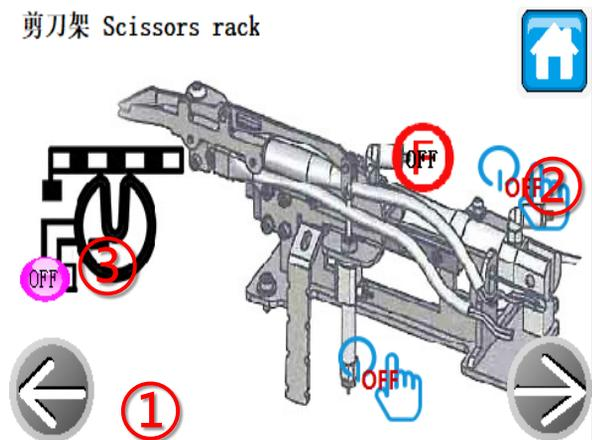

图2
点击检测模式图标进入检测模式，进入图二界面，点击图2中的①为剪刀架气缸，②剪刀合并气缸，（点击此位置气缸才会有动作）点击①的位置剪刀会伸出来，同时图2中③的位置会显示剪刀传感器指示灯亮起，则表明剪刀气缸和剪刀电磁阀正常，点击图2中①或②的如果剪刀架/剪刀合并无动作，则表明气缸/电磁阀有问题，需更换电磁阀/气缸。
Click the detection mode icon to enter the detection mode and enter the interface in Figure 2. Click ① in Figure 2 to represent the scissor holder cylinder, and ② the scissors merge into the cylinder. (The cylinder will move only when you click this position.) Click ① and the scissors will extend. At the same time, the picture The position of ③ in 2 will show that the scissor sensor indicator light is on, which means that the scissor cylinder and scissor solenoid valve are normal. Click ① or ② in Figure 2. If the scissor holder/scissors are combined and there is no action, it means that there is a problem with the cylinder/solenoid valve. You need to Replace solenoid valve/cylinder.